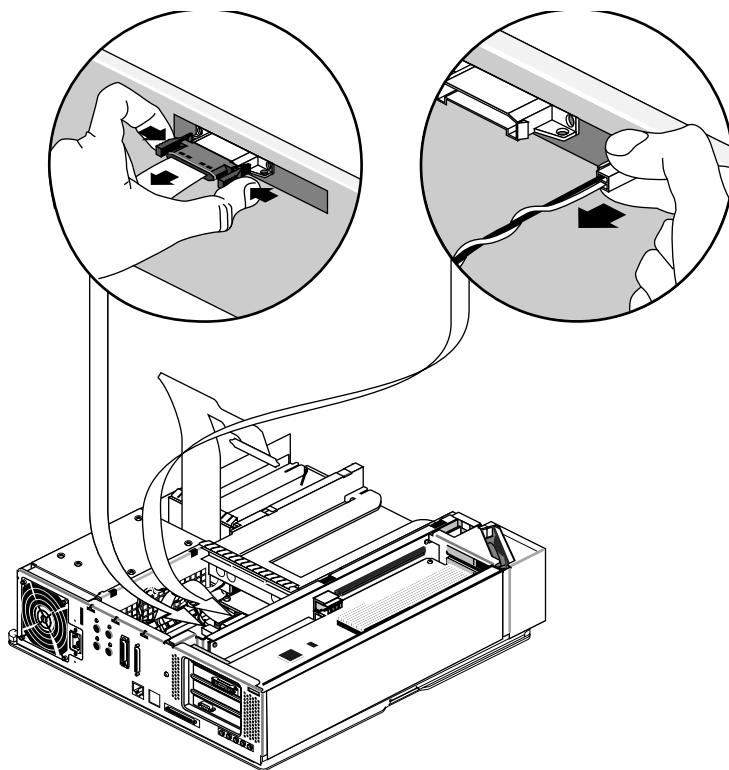

Figure 3-24 Disconnecting the Midplane Power and Twisted-Pair Cables
- Pinch together the corrugated edges on the ribbon cable connector, and pull it free from the midplane. See Figure 3-24.